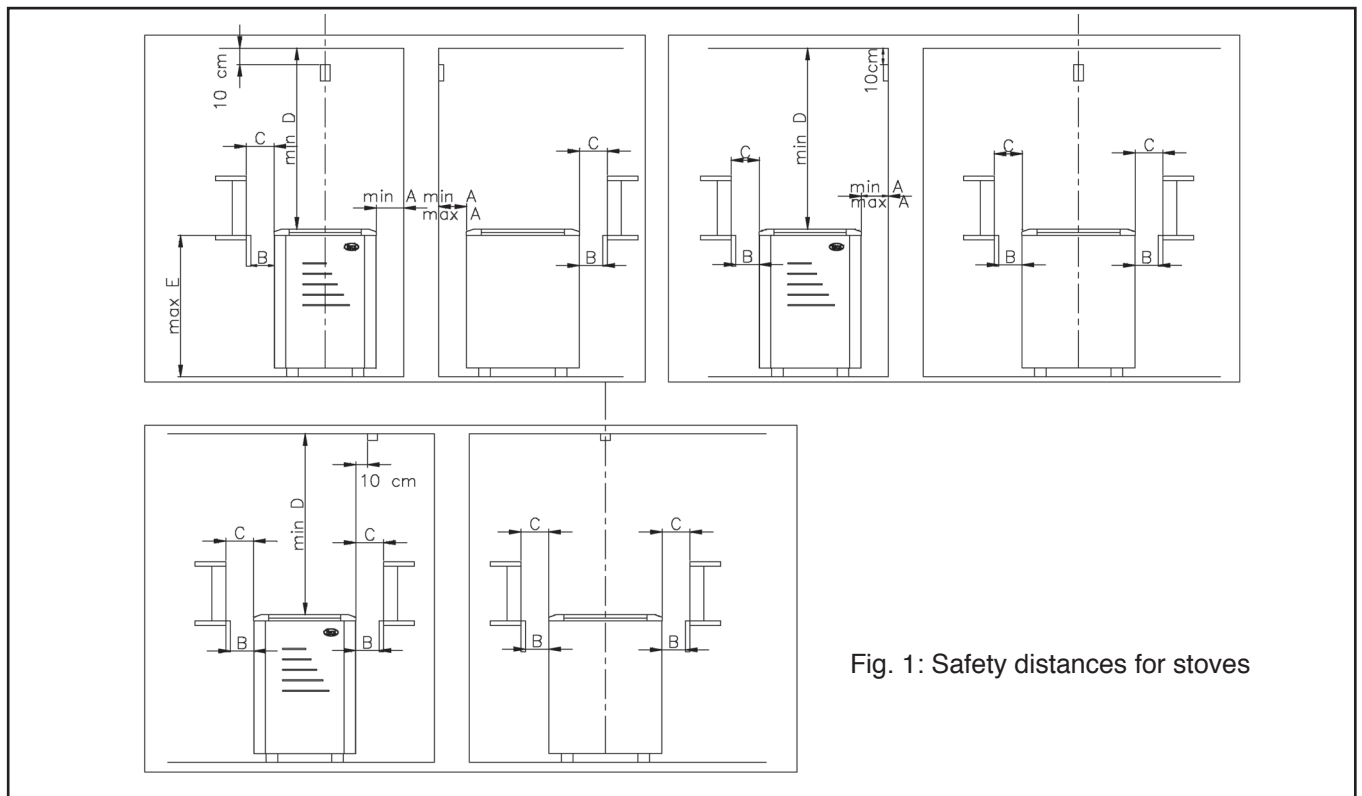

Fig. 1: Safety distances for stoves
\*\*) See figure 1 \*) Connected with rubber cable, type H07RN-F or corresponding cable
- Observe the safety distances (Fig. 1) when installing the stove.